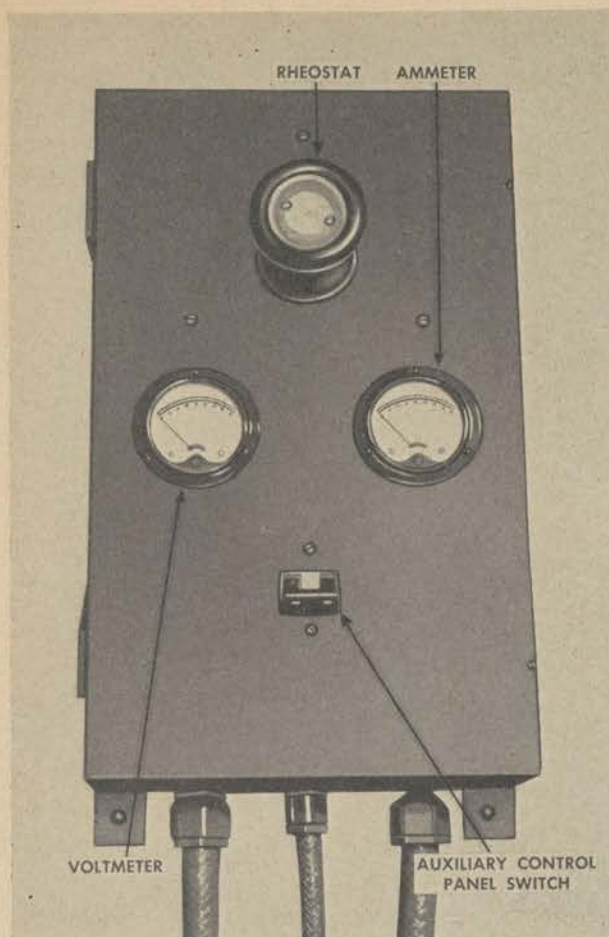

Figure 66. Auxiliary diesel generator control panel.
(3) *Auxiliary Diesel generator control panel.* This control panel is located to the left of the main panel. The controls are located and identified in figure 66. The following tabulation outlines the functions of each control on the panel:
(1) Controls and switches for operation of the auxiliary Diesel generator set are illustrated in figure 66.
(2) The starting switch, located on the instrument panel, is pushed in to operate the Diesel starting motor.
(3) The governor lock screw, located on the governor housing, is loosened during the starting operation prior to adjusting the governor screw.
(4) The governor screw, located on the governor fuel pump assembly, is used for regulating the speed of the engine.
(5) The load regulator throttle nut, located on the governor screw, locks the governor screw into position after the desired operating speed is obtained.
a. MAIN DIESEL ENGINE. (1) *Fuel pressure gage.* This instrument serves to indicate the condition of the fuel system while the Diesel engine is operating. The instrument dial is marked off in three colors: NORMAL (white), CAUTION (green), and OUT (red). With the fuel pump operating correctly and the system free of clogged lines or filters, the dial hand will indicate NORMAL. Should the filters become clogged with foreign material, the position of the fuel pressure gage indicator will work back from NORMAL to the CAUTION range, and eventually into the OUT range. The exact point on the OUT (red) range which the indicator will register before the resistance to fuel flow interferes with the maximum performance of the engine, is best determined by experience with the individual engine.
(2) *Auxiliary generator control panel (fig. 66).* Instruments on the auxiliary control panel are as follows: